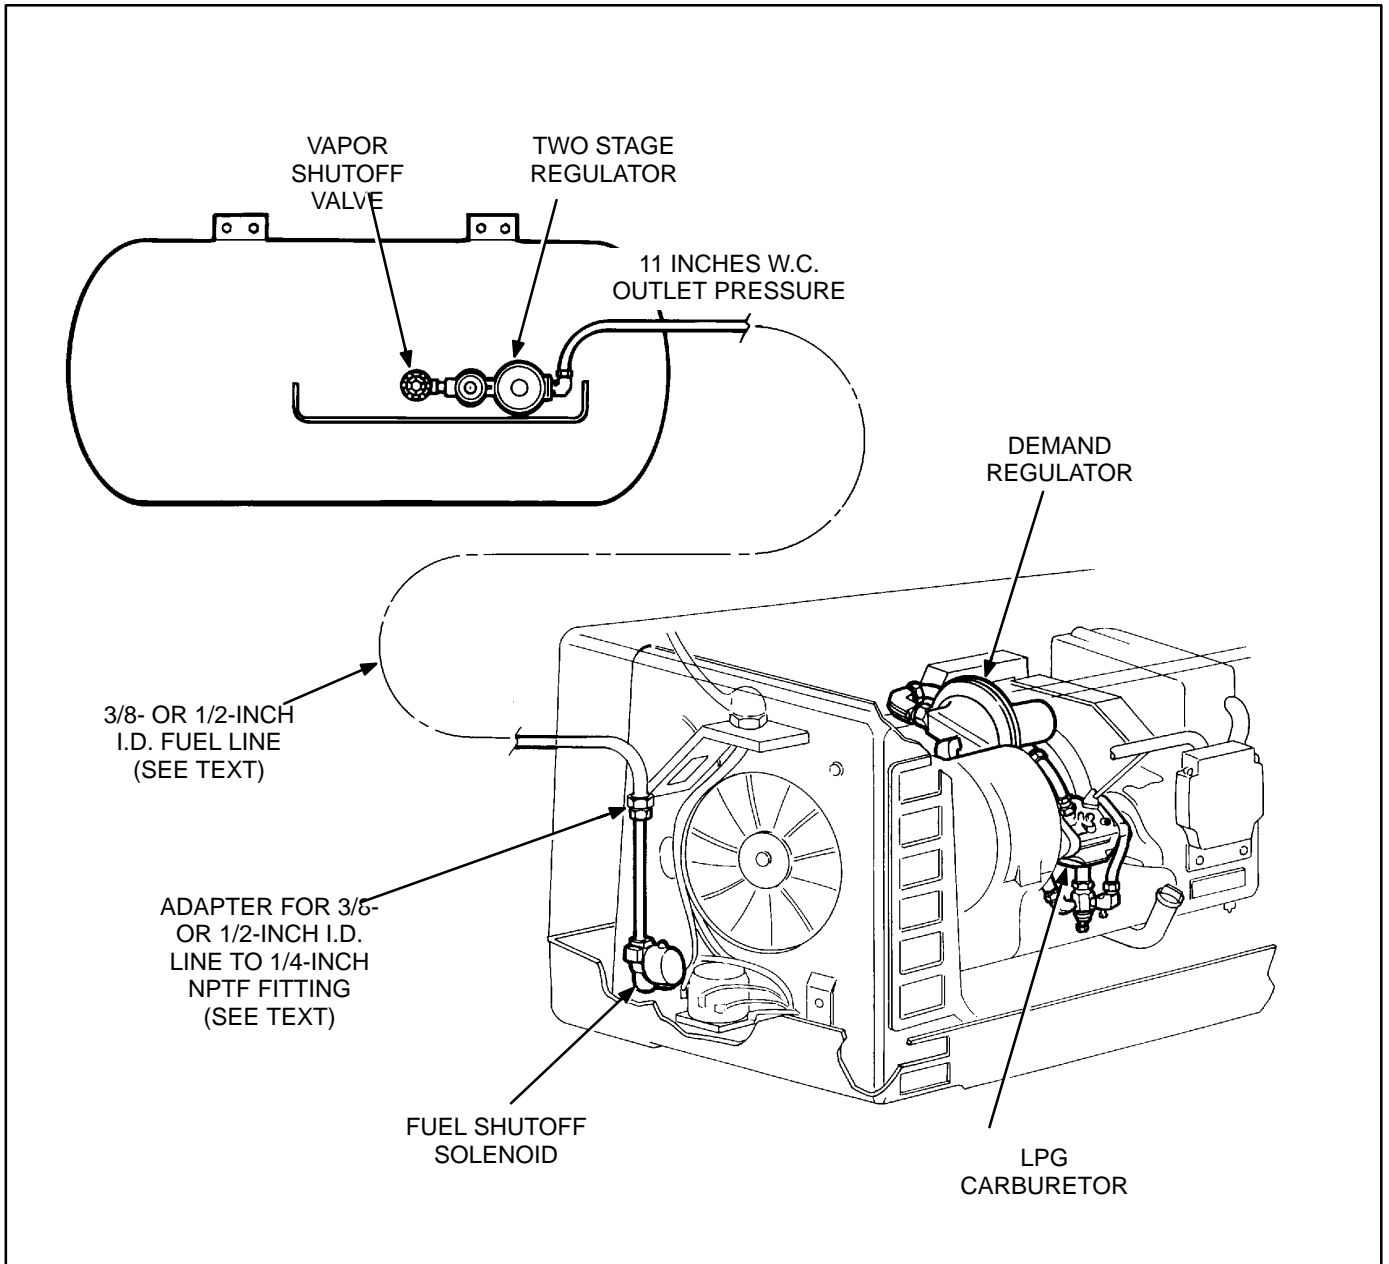

FIGURE 7-3. TYPICAL LPG VAPOR WITHDRAWAL FUEL SYSTEM
LPG models are designed for a low-pressure vapor-withdrawal type of LPG supply system. See Figure 7-3. *LPG supply pressure at the inlet to the demand regulator must be 9 to 13 inches (229 to 330 mm) water column (WC) when the genset is running under full load.*